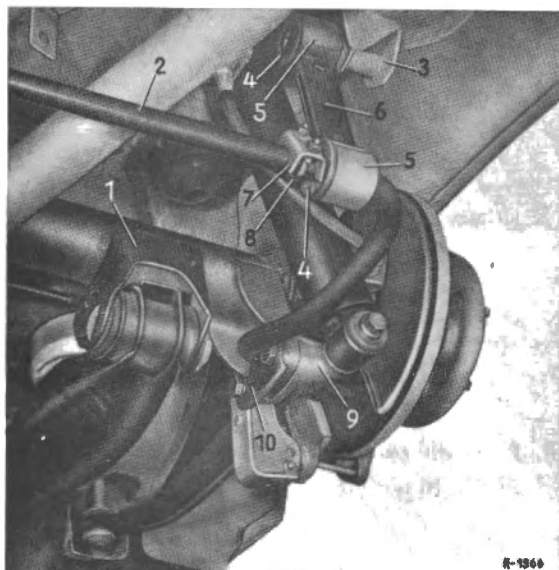

Fig. 32-9/2
7. Unscrew the three hexagon screws fastening the bearing bracket (3) to the right axle tube and remove the connecting brace (4) (Fig. 32-9/3).